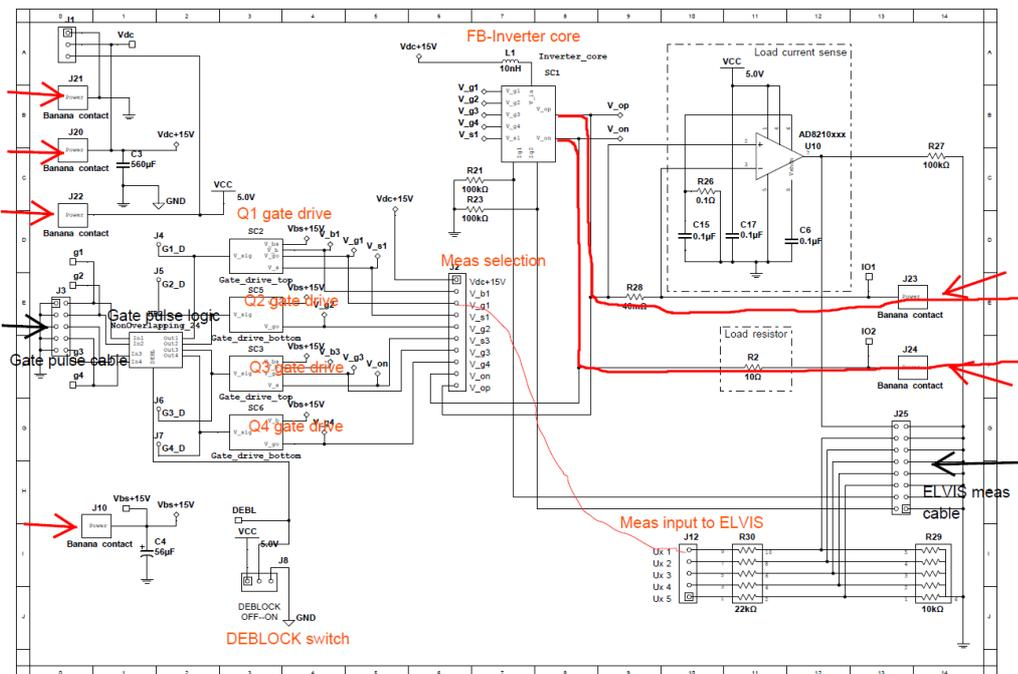
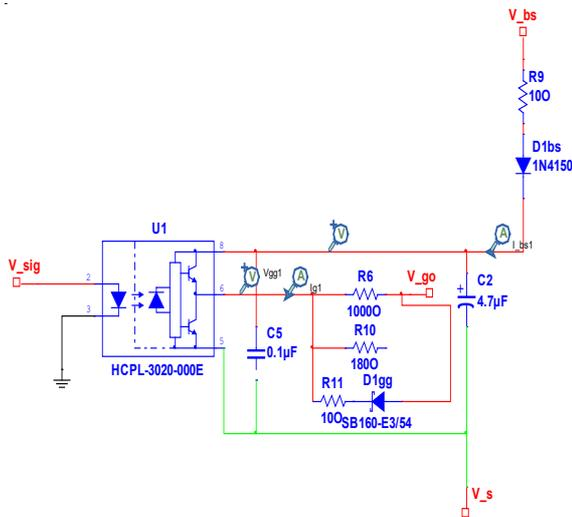
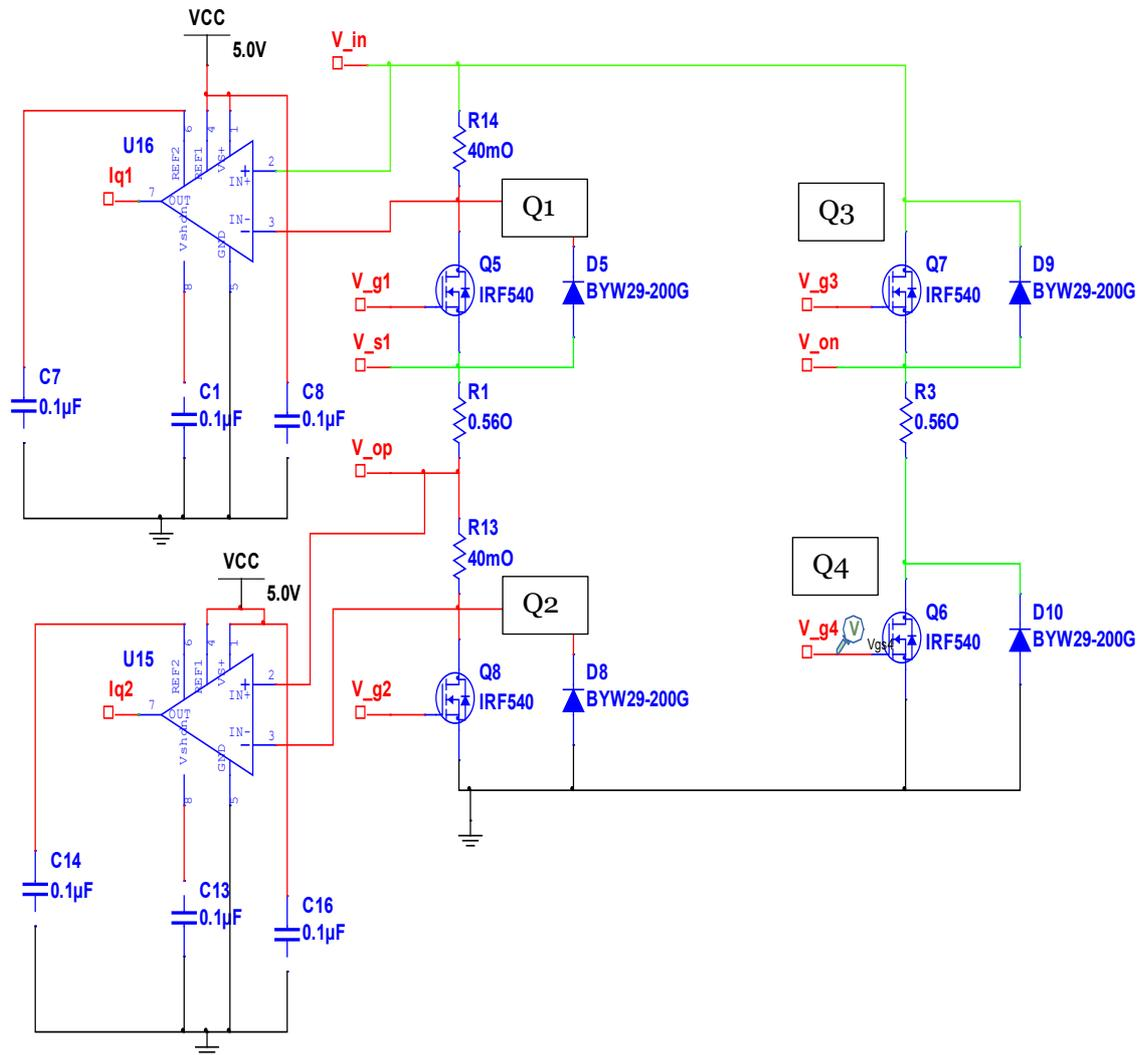

Figure 1 FB-Inverter circuit overview
Figure 4 Gate drive of upper switches (Q1 & Q3)
Figure 6 Full-bridge inverter circuit
We will here get familiarized with the design of the Full-bridge (FB) Inverter. The block diagram is presented in Figure 1, where the functional units are placed in a
The physical cables required for power supply and signal interface are indicated in Figure 1 by arrows. On the left hand side the 4 banana sockets for power supply connections are found. From the top:
Two flat cables are required to connect gate signals to the full-bridge and to allow measurement signals to be sent back. The flat cable connectors are indicated by black arrows in Figure 1.
1. Gate signals. Left hand side connection in Figure 1 and the lower connection on the physical board (**Fel! Hittar inte referenskälla.**).
2. Measurement signals. Right hand side connection in Figure 1 and the upper connection on the physical board (**Fel! Hittar inte referenskälla.**).
Furthermore, there are a total of 8 measurement signals which can be used from the FB-inverter. 3 of these are dedicated to current sensing while 5 are flexible to setup by selecting among the 10 measurement points, as listed in sub-section “Measurement signals”. Selection of the 5 flexible measurement signals are done by installing wires between the corresponding point on the “Meas selection connector” and the “Meas input to ELVIS” as indicated in Figure 1.
Isolation is provided through the opto-coupler U1 of the type HCPL-3020 by AVAGO Technologies. The data sheet is found in the Lab2 system folder. The supply to the gate drive is provided by the bootstrap circuit constituted by R9, D1bs and C2 in Figure 4. Bootstrapping is required since the upper switches will see a potential of the source (and gate) that changes through the switching operation. The bootstrap is fed by the dc-voltage source V_{dc_bs} in Figure 1. Charging of the bootstrap capacitor C2 will commence at the initial turn-on of the main switch Q2 (see Figure 6). The initial charging current will be limited by R2, which also sets a time constant together with the capacitor which defines the speed of charging.
The full-bridge inverter circuit is defined by the “Inverter_core” block in Figure 1, where the following external terminals are found:
Inside “Inverter-core” the detailed full-bridge inverter circuit is defined as shown by Figure 6. Please note the labeling of the main MOSFETs and diodes not being as per the general notation. The labeling shown in Figure 6 corresponds to labeling found on the FB-Inverter board. However, for general notation the following translation shall be made:
The FB-Inverter board are setup for output of 8 analog measurement signals. 3 current measurements and 5 voltage measurements. The current signals are derived from current sense amplifiers LT1999IMS-10. As described in previous sub-section, two current sense circuits are monitoring the Q1/D1 and Q2/D2 currents while a third current sense is measuring the load current as shown in Figure 1.